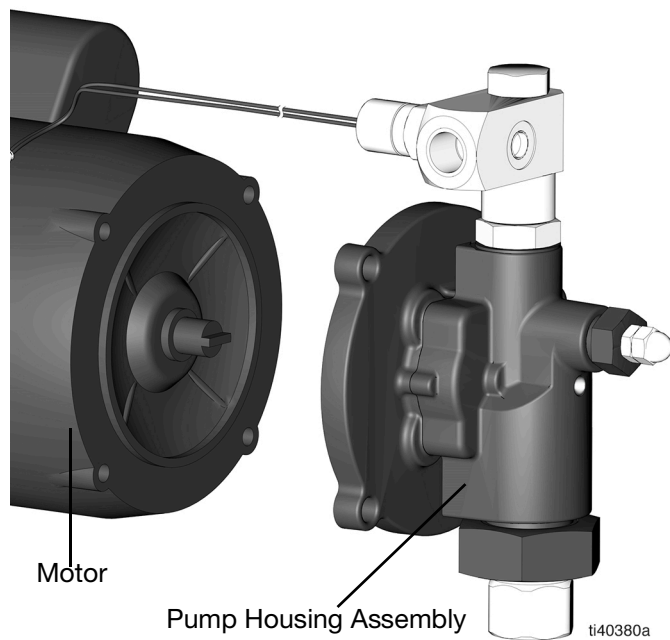

FIG. 18
14. Remove the pump housing assembly from the motor (FIG. 18).